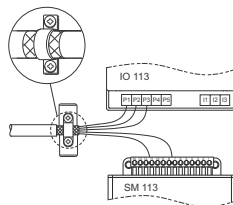

Fig. 6 Screen fixed with cable clamp, and both IO 113 and SM 113 mounted in a cabinet
- Do not twist screen ends as this will destroy the screening effect at high frequencies. Use cable clamps as shown in fig. 6.